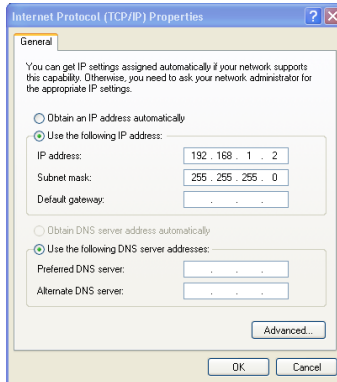

Figure 9: Internet Protocol (TCP/IP) Properties Window
6. Select Use the following IP Address, and fill in the details as shown in Figure 9.